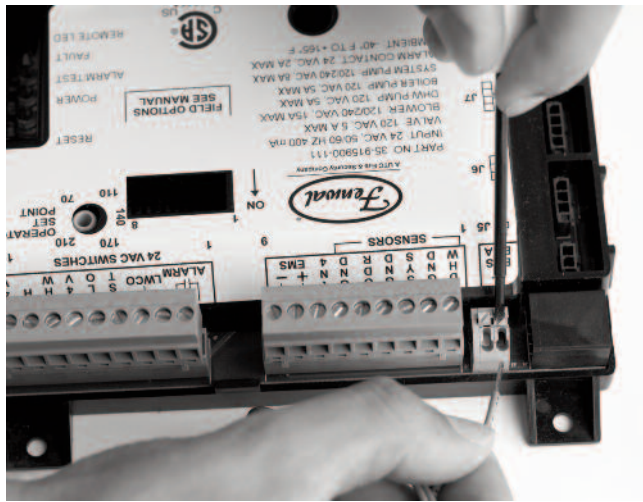

Fig. 21: FT_BUS Wire Connection
1. On the boiler designated as the Master, connect the system pump wiring to the terminal block at the rear of the unit. Connect to terminals 10, 11, and 12 (See Fig. 21). The output is rated for pilot duty only (2A maximum).
2. Connect the boiler pump wires to the terminal block at the rear of their unit. Connect to terminals 4, 5, and 6 (See Fig. 21).